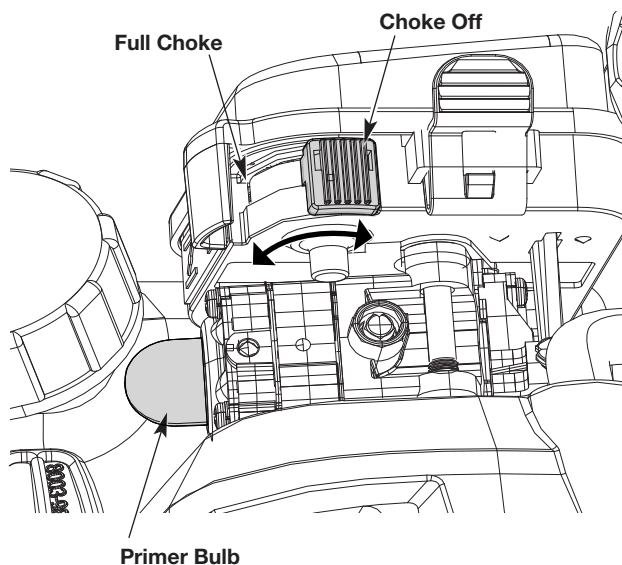

Fig. 6
3. Slowly press and release the primer bulb **10 times** (Fig. 6).
4. Move the choke lever to the Full Choke position (Fig. 6).